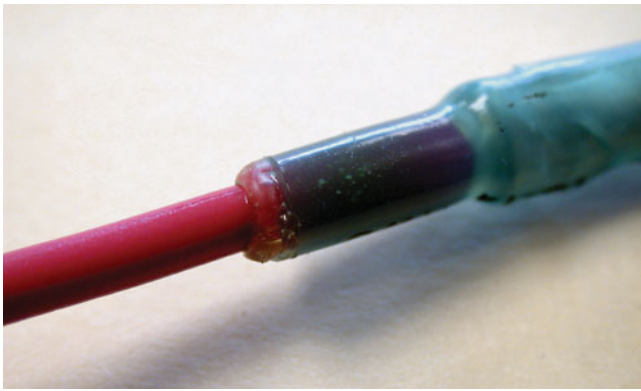

FIGURE 44-24 Heating the crimp-and-seal connector melts the glue and forms an effective seal against moisture.
STEP 3 Apply heat to the connector until the sleeve shrinks down around the wire and a small amount of sealant is observed around the ends of the sleeve, as shown in ● **FIGURE 44-24**.